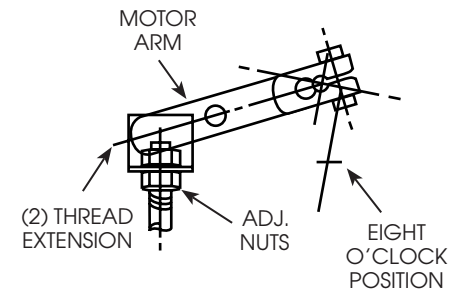

Figure 6
3. Adjust threaded rod making sure motor arm is in the eight o'clock position (see Figure 6).